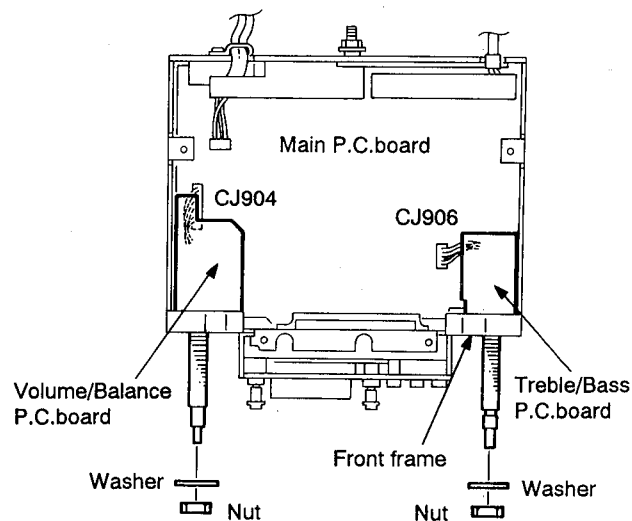

Fig. 4-14
■ Volume boards in both sides (Fig. 4-14)